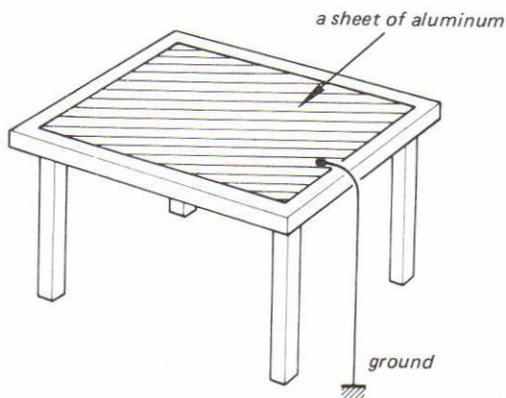

Fig. 2.
2. Ground the work bench for static electricity (See Fig. 2) (Place a sheet of aluminum onto the bench.)